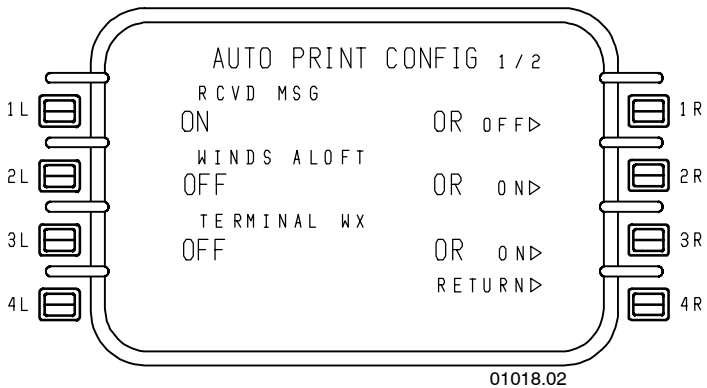

Figure 6-74
- **AUTO PRINT CONFIG 1/2** - Figure 6-74 is used to configure what AFIS data will automatically be transmitted to the flight deck printer.